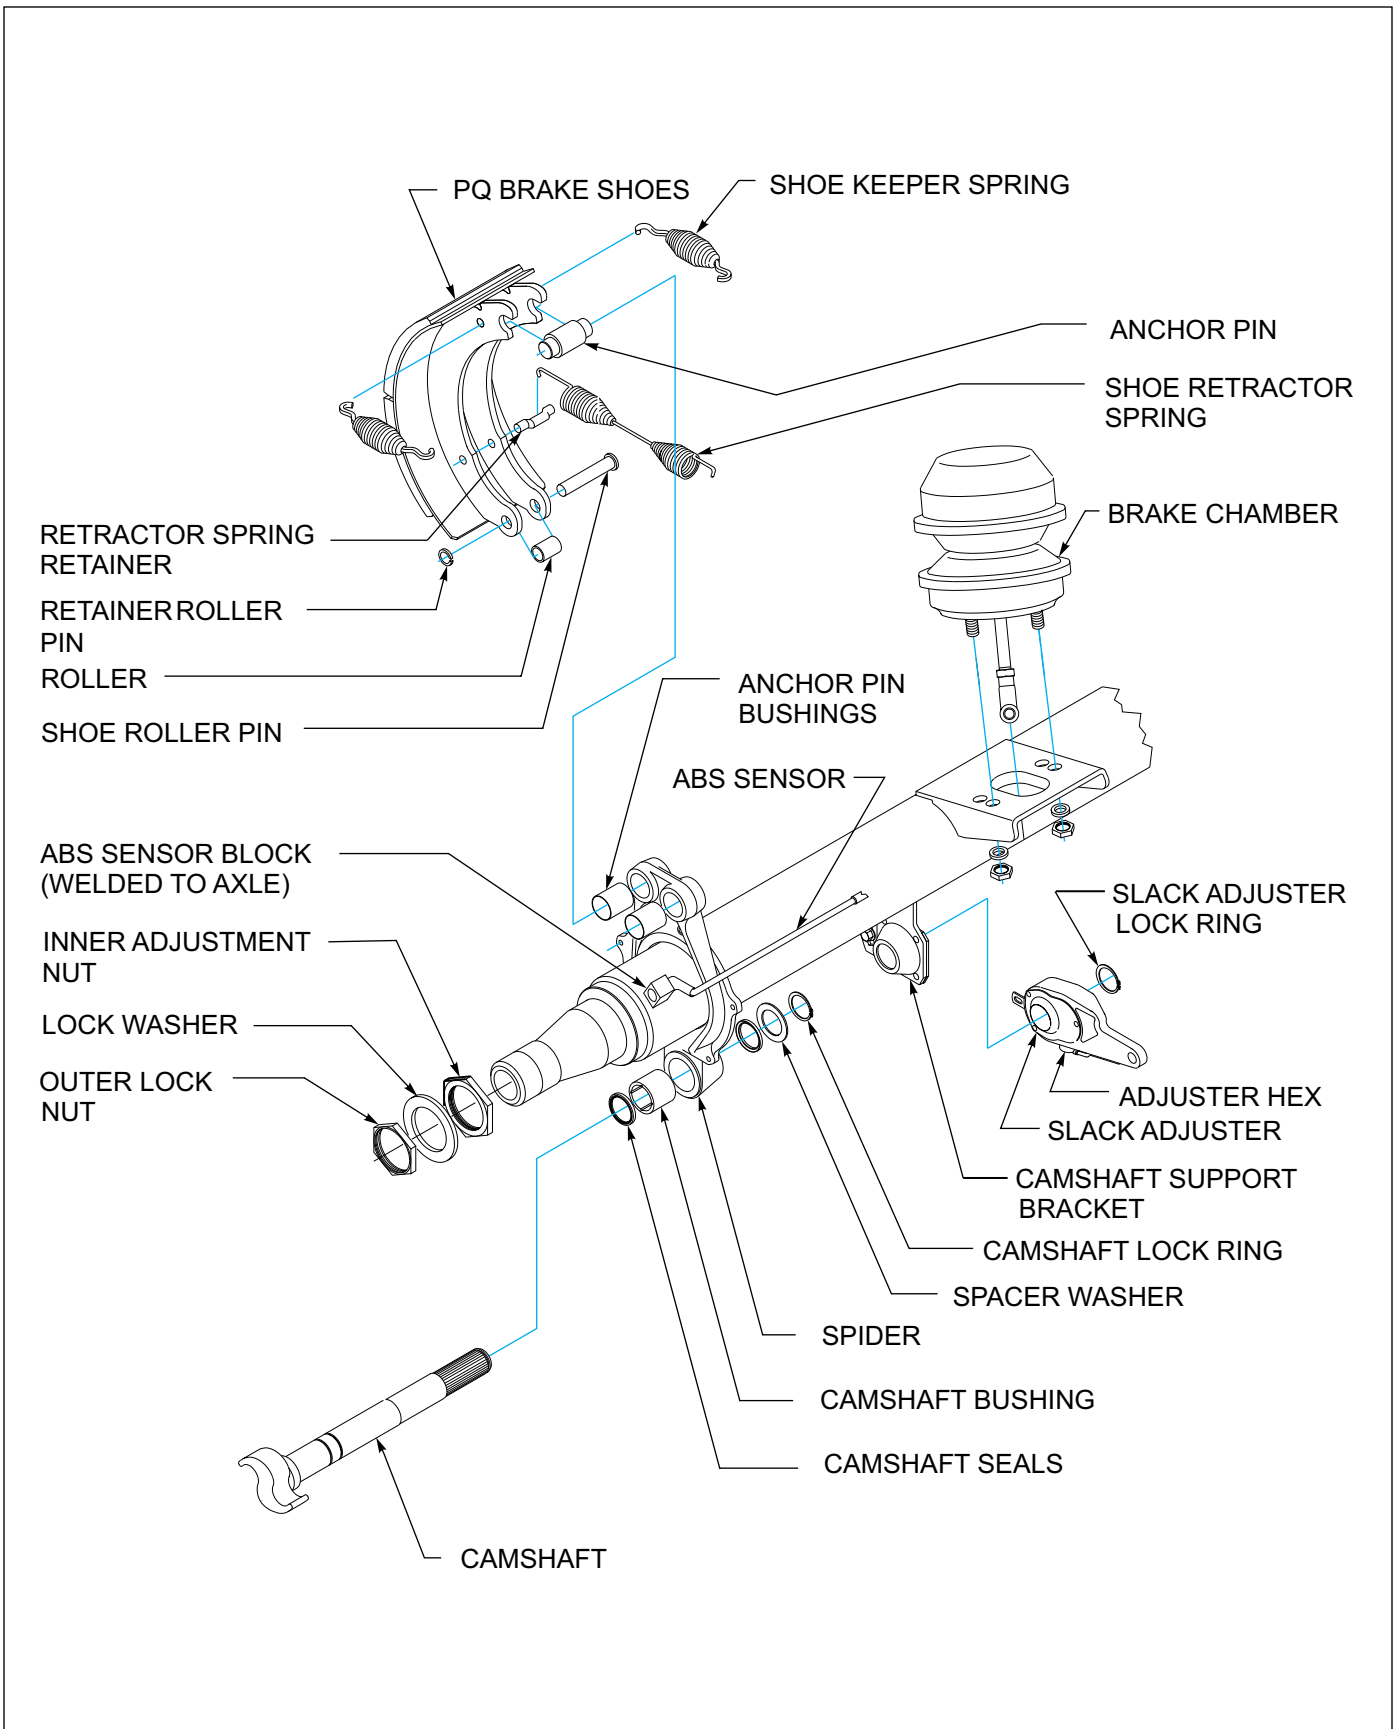

Figure 4-14: Axle and Brake Assembly
1. Release brakes and back off slack adjuster (See **Figure 4-14.**)
1. Install new anchor pin bushings, camshaft bushing and camshaft seals into the spider (See **Figure 4-14.**)